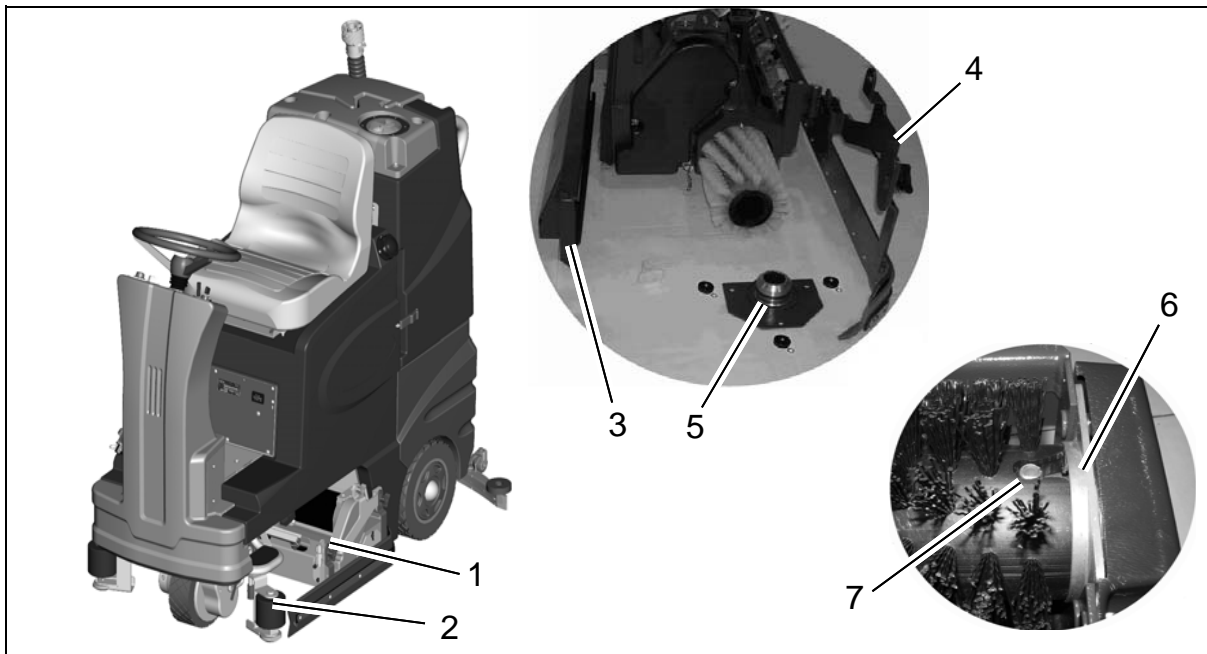

Fig.16
Clean dirt hopper (Fig. 16/3) at daily intervals or as required. Remove dirt hopper by lifting and sliding sideways. Clean the hopper and replace.
1. Remove the yellow star shaped knob and swing the side squeegee bracket (Fig. 16/4) along the hinge.
2. Release brush hub (Fig. 16/5) by removing the three thumbnuts.
1. Insert brush into brush deck and rotate until it catches on the drive hub (notched end must face inward) (Fig. 16/6&7).
Check roller bumpers (Fig. 16/2) at weekly intervals and replace if required.